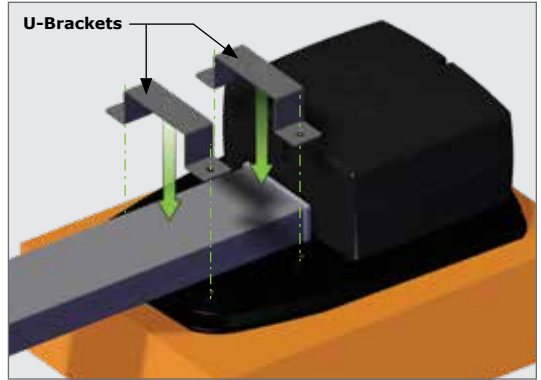

FIGURE 9
4. Place the two U-Brackets into position over the four holes found on the head unit (Figure 9).